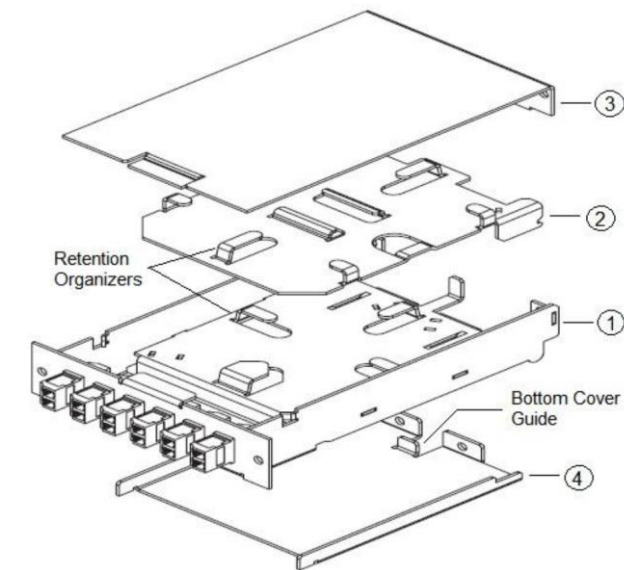

Figure 1
2.0 Identify components of the Opt-X SDX Splice Module kit. (See Figure 1)